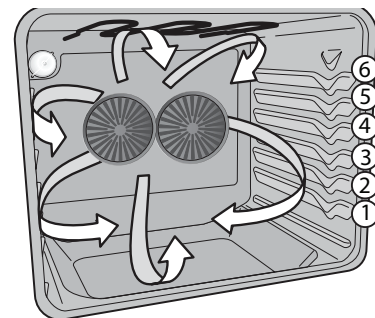
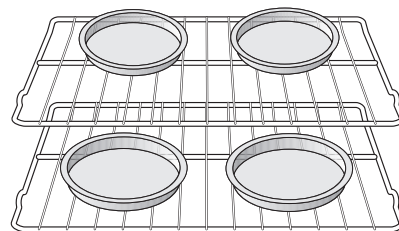

Figure 17: Convection air flow
Figure 18: Pan spacing suggestion
This mode of cooking enables you to obtain the best results when baking with multiple pans and racks. The oven can be programmed for convection baking at any temperature between 170°F to 550°F. The convection function uses a fan to circulate the oven heat uniformly and continuously around the oven (Figure 17). This improved heat distribution allows for fast, even cooking and browning results. It also gives better baking results when using two oven racks at the same time.
- For best results when baking cakes using two oven racks, place flat rack in position 5 and the glide rack in position 1 (See Figure 17). When baking using two oven racks, position cookware as shown in Figure 18. Allow at least 2 inches (5 cm) of space between cookware for proper air circulation.